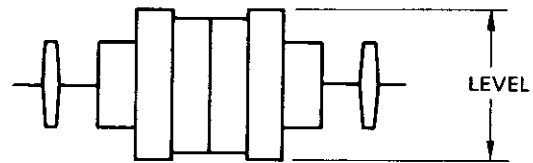

Fig. 68
- ① Before performing this adjustment, adjust VR115.
- ② Connect the oscilloscope probe to TP19.
- ③ Adjust VR120 so that the level shown in Figure 68 becomes 1.0Vp-p .